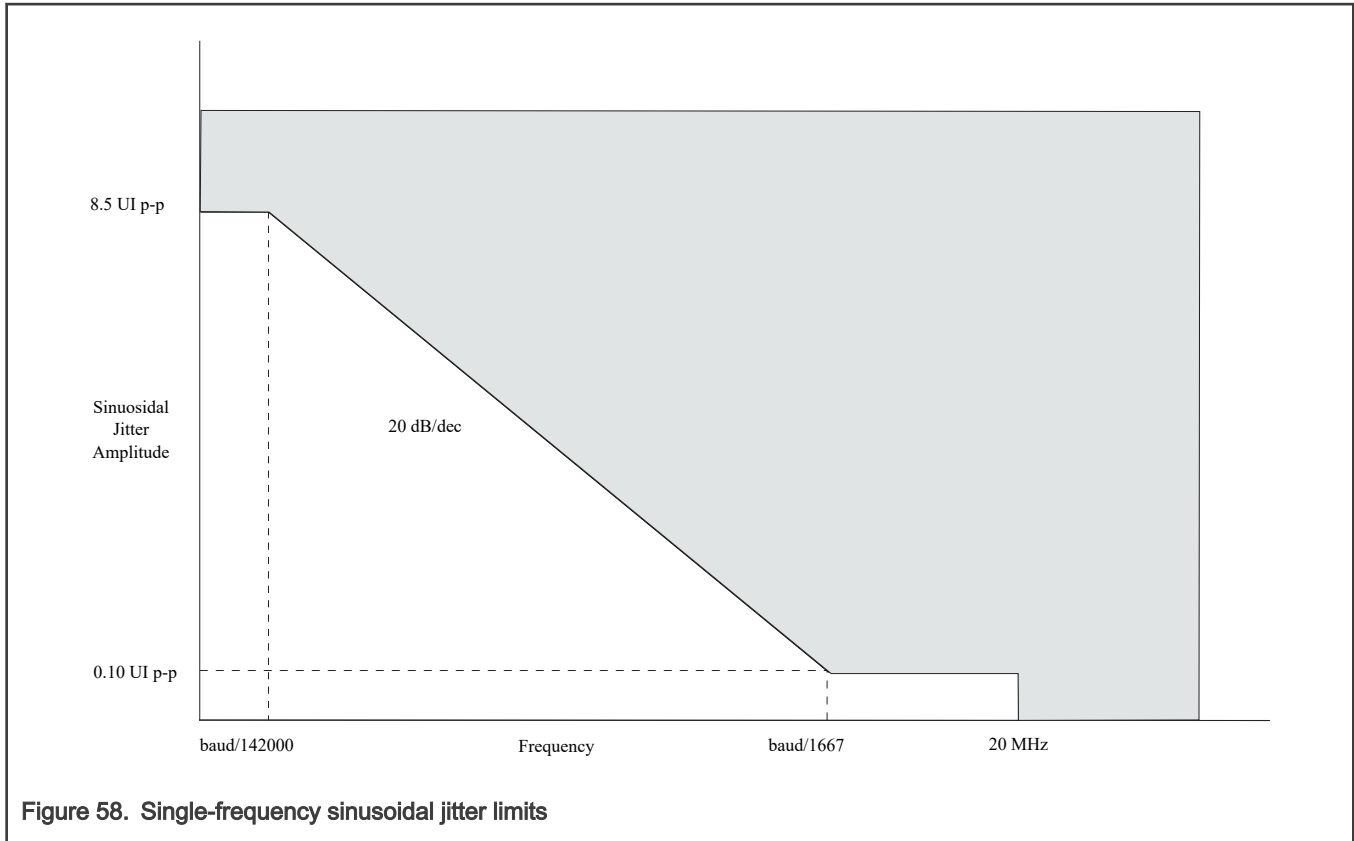

Figure 58. Single-frequency sinusoidal jitter limits
1. See Figure 58.
3. See Figure 58.